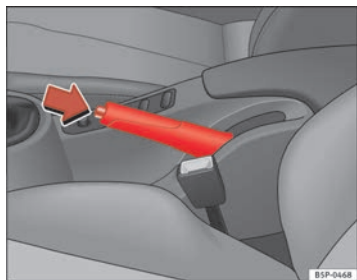

Fig. 149 Handbrake between the front seats
- Pull the handbrake lever up firmly ⇒ fig. 149.
- Pull the lever up slightly and press the release knob in the direction of the arrow ⇒ fig. 149 and guide the handbrake lever down fully ⇒ ⚠.